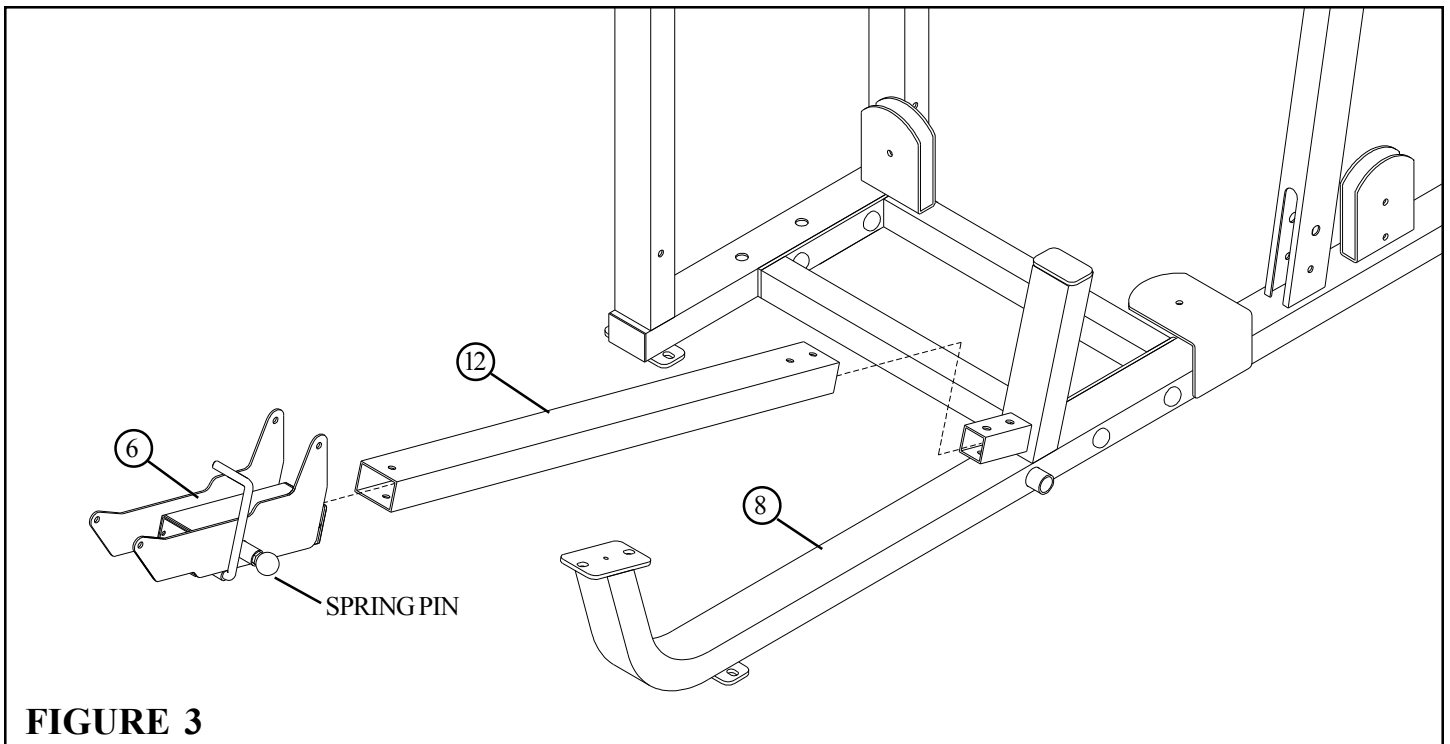

FIGURE 3
- Pull back on the SPRING PIN and slide the SEAT ADJUST (6) over the SLIDE TUBE (12) as shown in FIGURE 3.
- Assemble the SLIDE TUBE (12) to the PRESS FRAME (8) as shown in FIGURE 3.